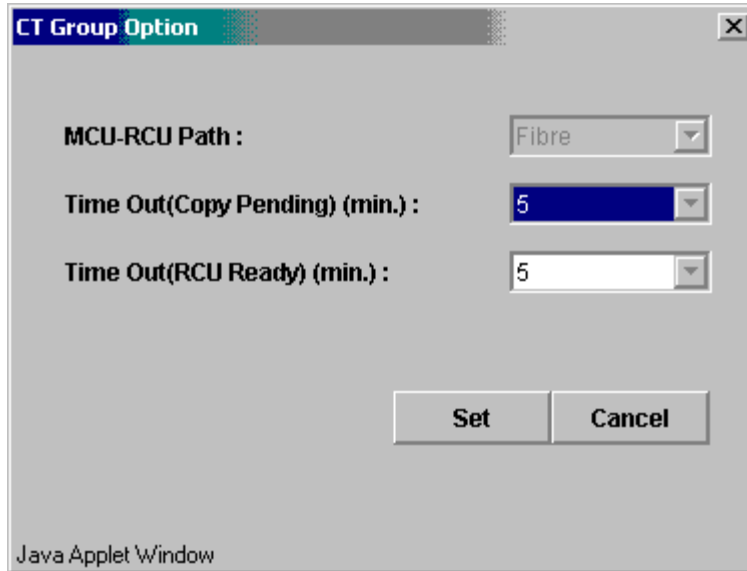

Figure 4.29 CT Group Option Panel
The CT Group Option panel (see Figure 4.29) allows you to change the group options for the existing consistency groups. To open the CT Group Option panel, select the **Asynchronous Operations** tab, select **Display All** or **Used** in the outline view, select the desired group(s), right-click on the group(s), select **CT Group Operation**, and then select **CT Group Option**.
4. Right-click on the selected group(s), select **CT Group Operation**, and then select **CT Group Option** to open the CT Group Option panel (refer to Figure 4.29). If the **CT Group Option** command is not enabled, you need to split the remaining pairs in this group.